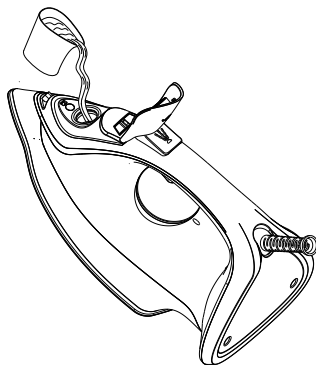

Figure 2
3. Set the Iron in the position indicated below (Figure 2) and fill it with water, no higher than the Max fill level shown on the See Through Water Window.